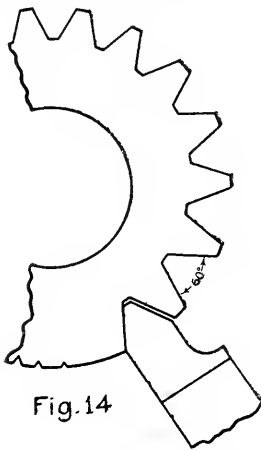

Fig. 14
**Grinding Tool.**—The sides of U. S. S. threads form an angle of 60 degrees. To cut this thread in a lathe, a tool the same shape as the threads is used. A gauge for grinding this tool accurately is shown in Fig. 14.